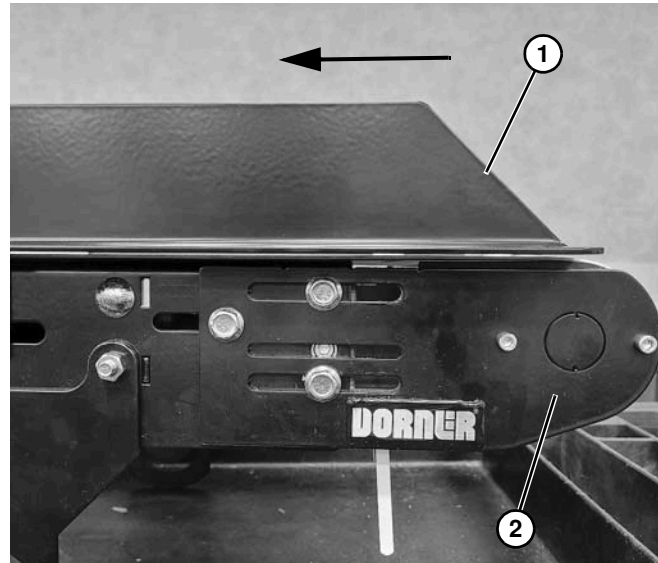

Figure 56
*When installing guiding, verify that angled cut end (**Figure 56, item 1**) of guiding is on the infeed end (**Figure 56, item 2**) of conveyor belt.*